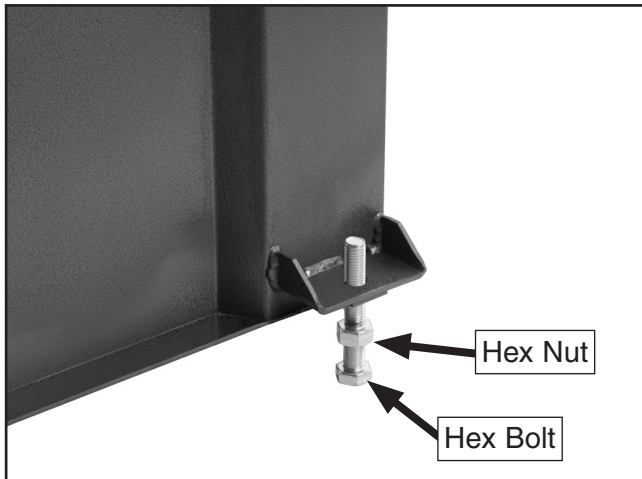

Figure 11. Leveling feet.
2. Insert one M16-2 x 50 hex bolt with an M16-2 hex nut into each of the feet, as shown in **Figure 11**.